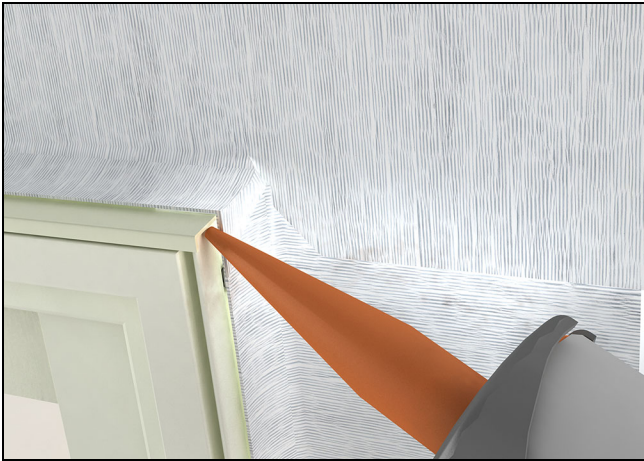

Figure 16
9. Seal the ends of the vinyl drip cap or rigid head flash, by injecting sealant at each end. See Figure 16.